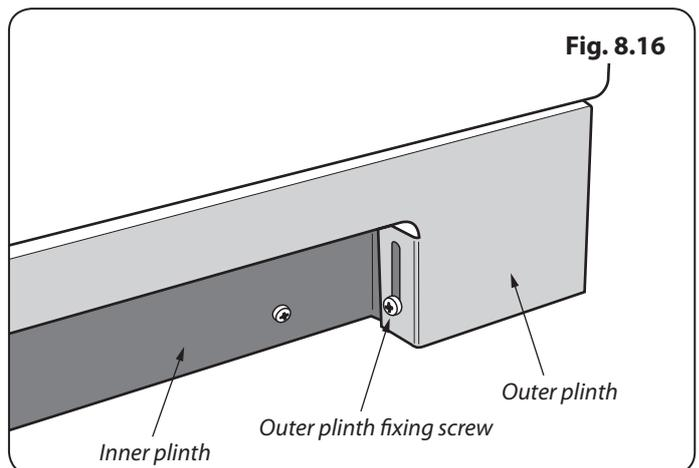

Fig. 8.16
**Kitchener:** Fit the outer plinth (2 screws, 1 each end) to the inner plinth. The height of the outer plinth can be adjusted by sliding it up or down via the slotted hole (Fig. 8.16).